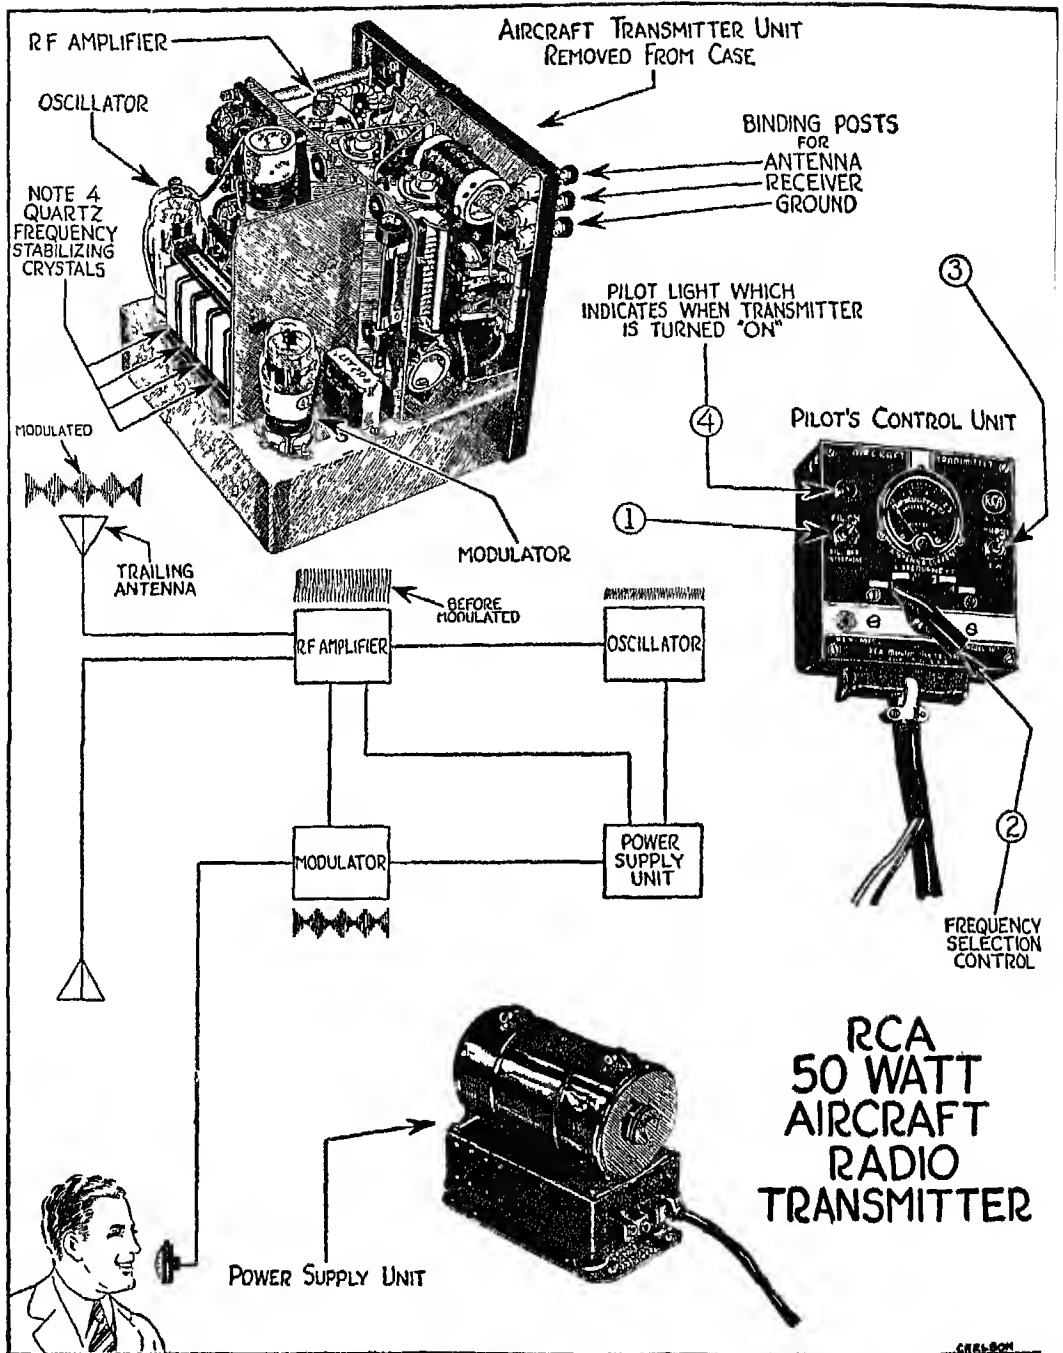
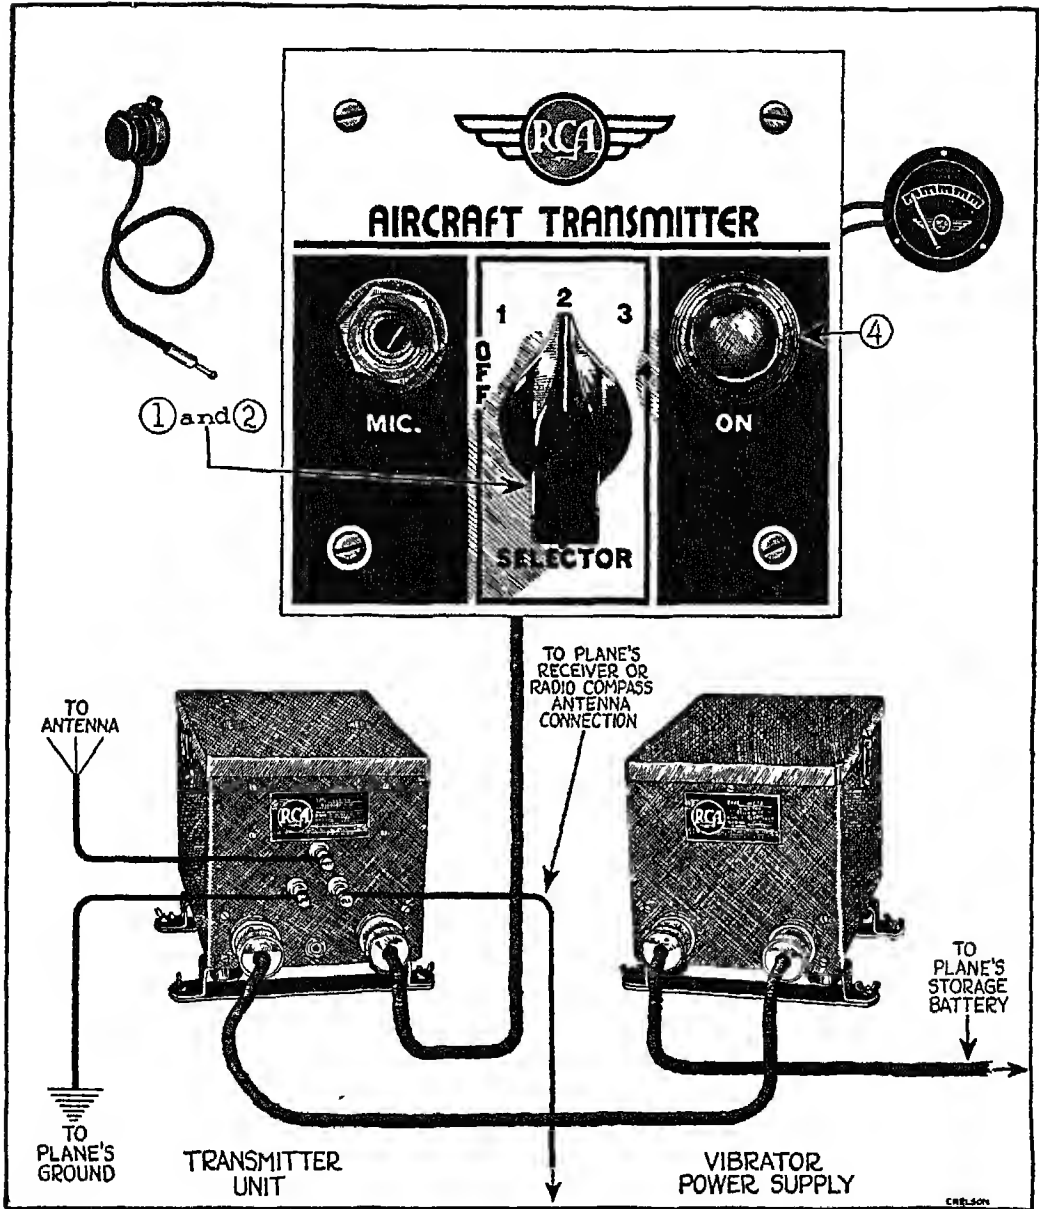

FIG. 240
Fig. 241
FIG. 240. Offhand, this illustration will probably give you the idea that a transmitter is much more complicated than a receiver or radiocompass. Actually, the transmitter is the simplest of the three instruments to operate; it only looks more complicated here because I have taken you behind the scenes.
FIG. 241. A 20-watt transmitter such as the one shown here has its filament control switch (1) and selector switch (2) combined, and is operated in the same way as the 50-watt transmitter except that it is not equipped with an emission control switch (No. 3 in Fig. 240) for telegraphic-key operation. There is very little difference in the range of a 20-watt and the range of a 50-watt transmitter when both are operated on an efficient antenna, but the increased power output of the latter makes it more reliable during adverse weather conditions.